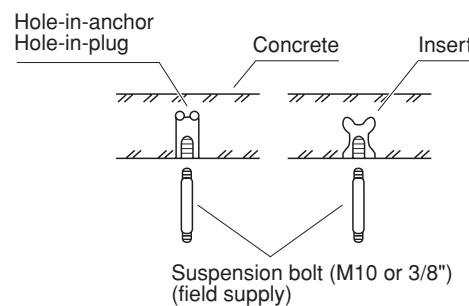

Fig. 3-100
- Insert suspension bolts as shown in Fig. 3-100